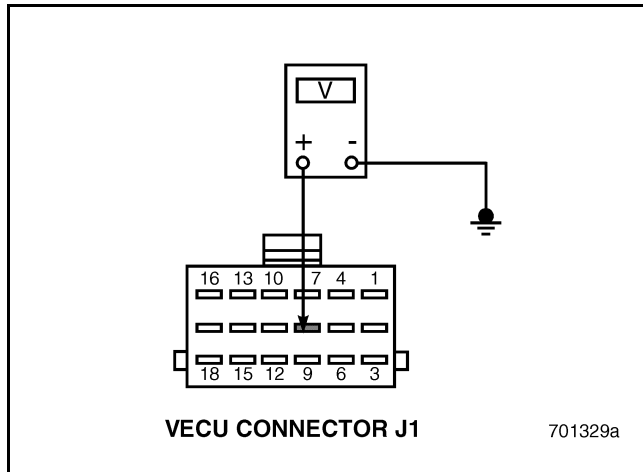

Figure 706
4. With the Speed Control Resume/Accel Switch OFF, measure the voltage between VECU connector J1 pin 8 and a good ground (see Figure 706).